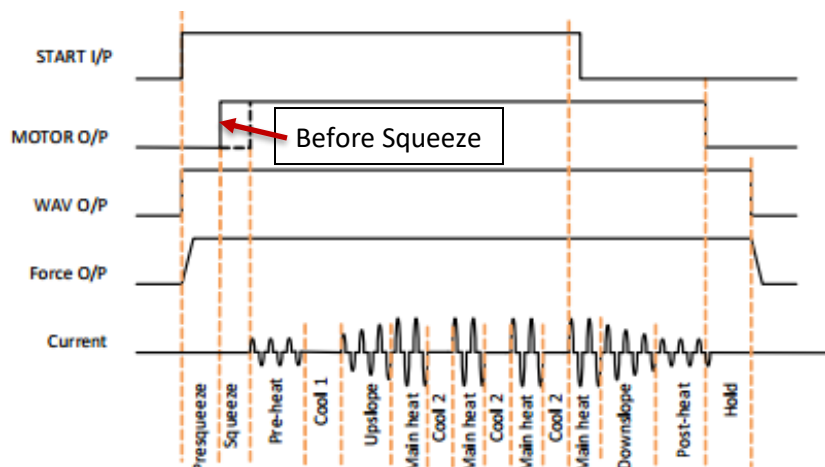

Figure 53: Seam Weld Timing Diagram – Second Stage Before Squeeze
The weld program (schedule) to be programmed will follow the Seam Weld timing diagram shown in Figure 53. This example is based on a machine with the configuration defined below:
The steps to program the Weld Program in Figure 53 are as follows:
25) The weld program corresponding to the seam welding timing diagram in Figure 53 has now been stored in the EN7000v2 weld control and it is ready for use.